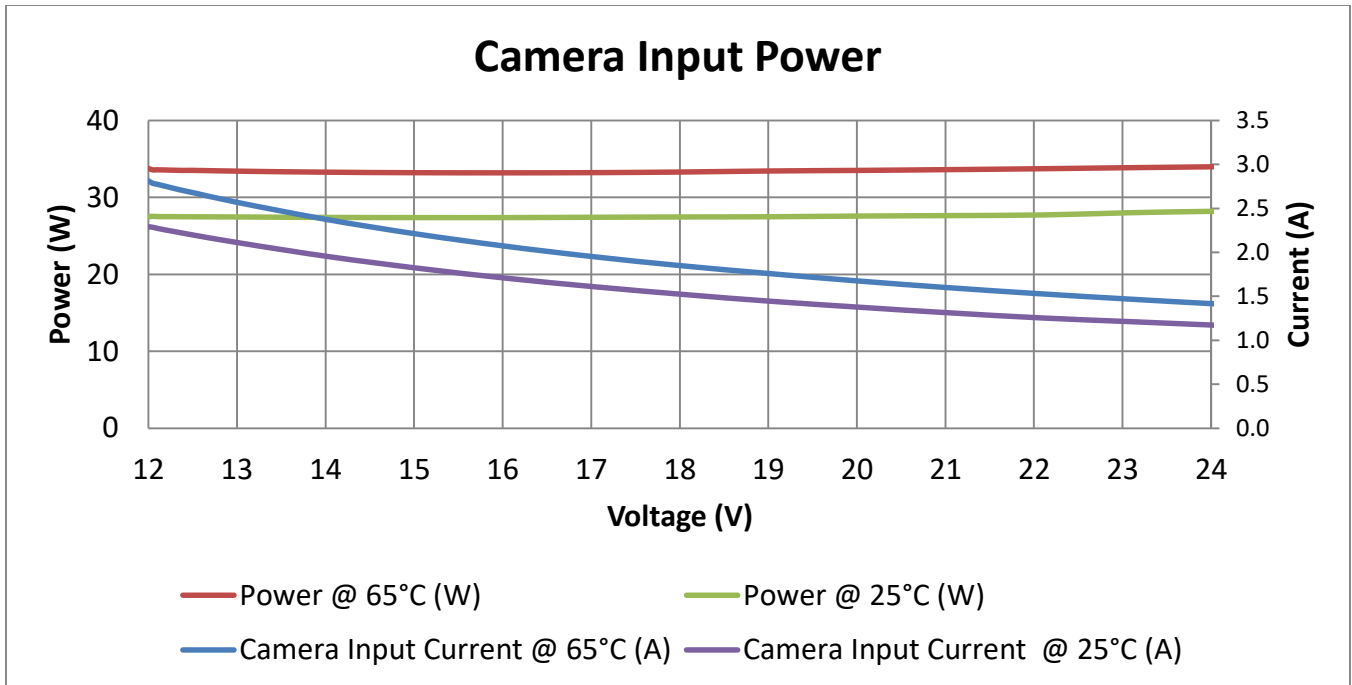

Figure 1: Power and Temperature*
1. Power dissipation increases with temperature. See Figure 1: Power and TemperatureFigure 1.